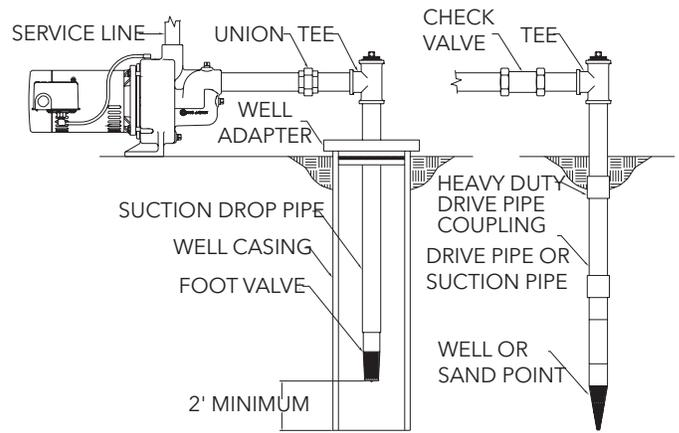

Figure 1:
Fittings for a shallow well installation, such as foot valves, well adaptors, couplings, unions and piping must be purchased separately. Your Red Jacket Jet Pump can be adapted horizontally to shallow well or drive point systems (see Figure 1).
1. To insure continual priming on a shallow well system (see Figure 1), a foot valve must be installed. On a drive point system (see Figure 1), a check valve must be installed as close as possible to the pump. Examine the foot valve or check valve to see that it is clean and seated properly.
6. Attach appropriate 1-1/4-inch tee or adaptor at the junction of the horizontal and vertical suction pipes as shown in Figure 1. The tee can be used to clean the well.